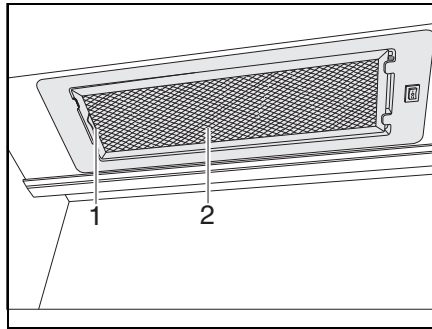

Fig. 166 Extractor hood
- Push the lever (Bild 166,1) to the inside.
- Remove the filter (Bild 166,2) downwards.